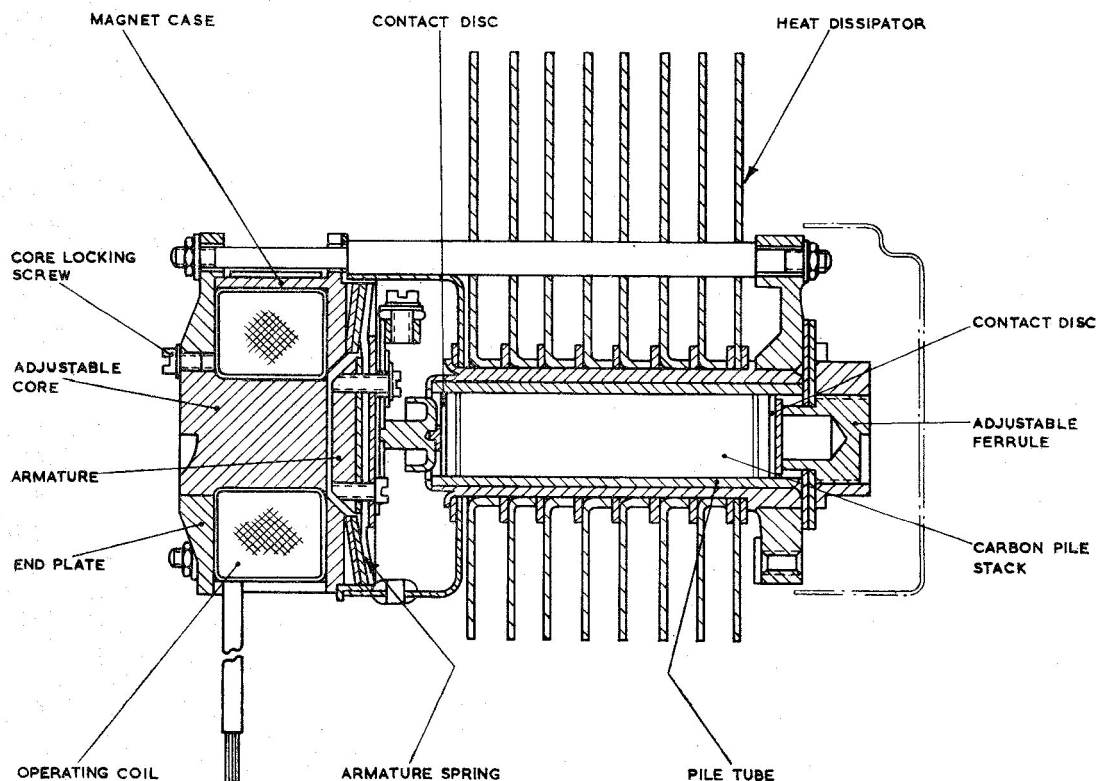

Fig. 2. Sectional view of regulator
5. A sectional view of the regulator unit is given in fig. 2. From this it will be seen that the original type of armature spring is fitted. The regulator incorporates the new type of pile end bracket, calibrated to indicate the amount of rotation necessary to effect the required pile movement.